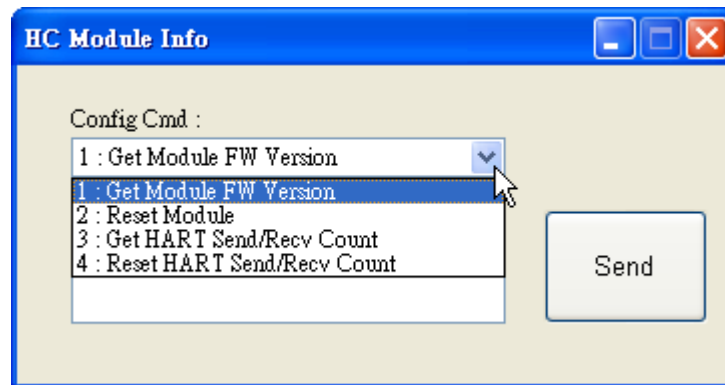

Figure 4-17: “For All” Option - Configuration Screen
1. “For All” Option : (Like Figure 4-17)